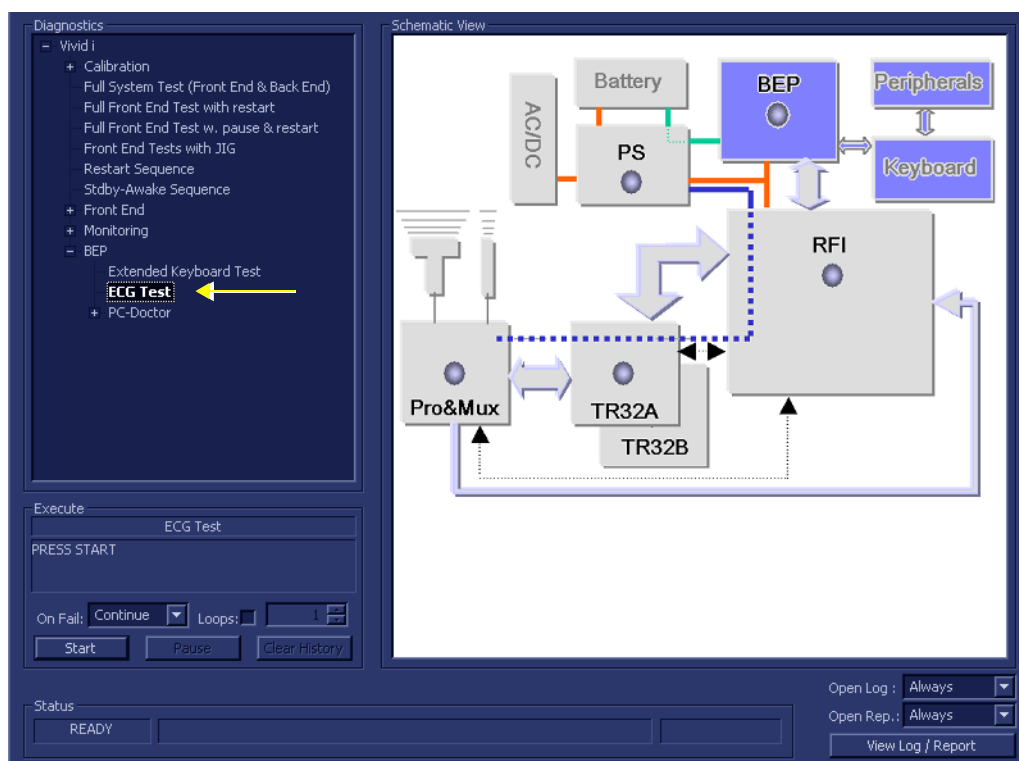

Figure 7-77 ECG Test
- 3.) In the *Diagnostic Test* window, trackball to **ECG Test** in the list of *BEP* tests available for selection from the Diagnostic Test Tree (see Figure 7-77 below) and press **Set**. The ECG Test name is displayed under *Execute*; the relevant system components to be tested are highlighted light blue in the Schematic View (BEP, Peripherals, Keyboard), as shown below: